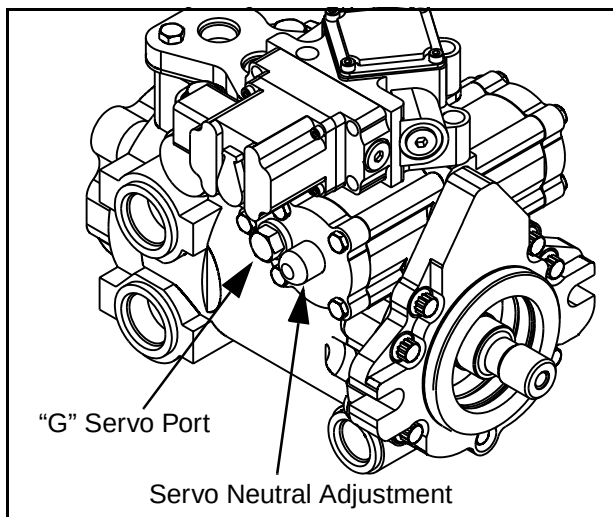

Figure 5 - 9 Conveyor Pump Ports (Alternate View)
- 1) Install a low pressure line (500 psi min.) connecting servo port “F” (Figure 5 - 8) and servo port “G” (Figure 5 - 9). This removes the effects of any control pressure on the servo piston.